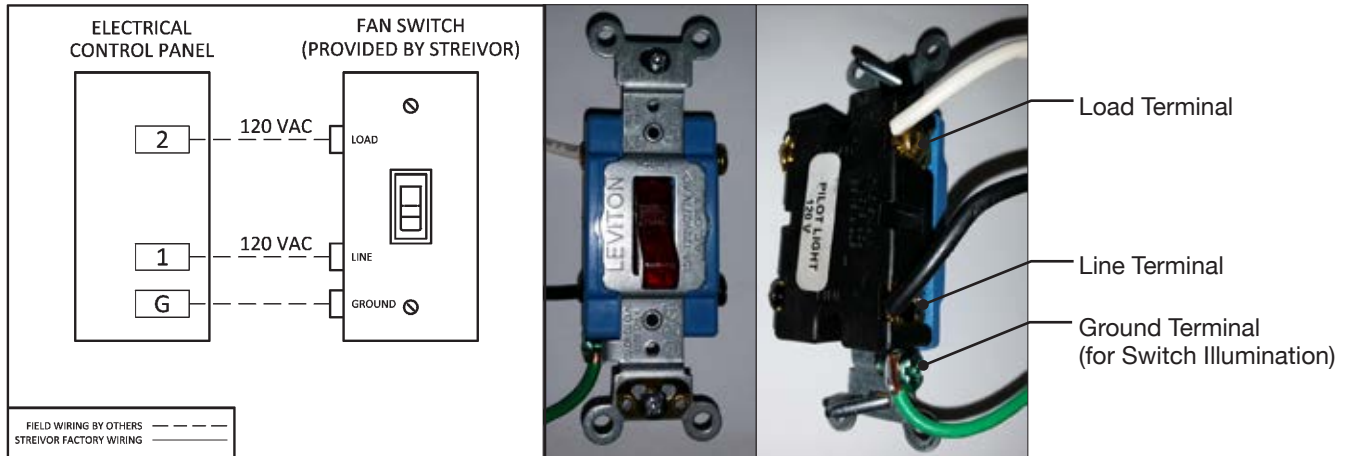

FIGURE 5A: Fan Switch Wiring*
- Connect 120 VAC from terminal block 1 in the ECP to the line terminal of the fan switch (Figure 5A).
- Connect the load terminal of the fan switch to terminal block 2 in the ECP (Figure 5A).